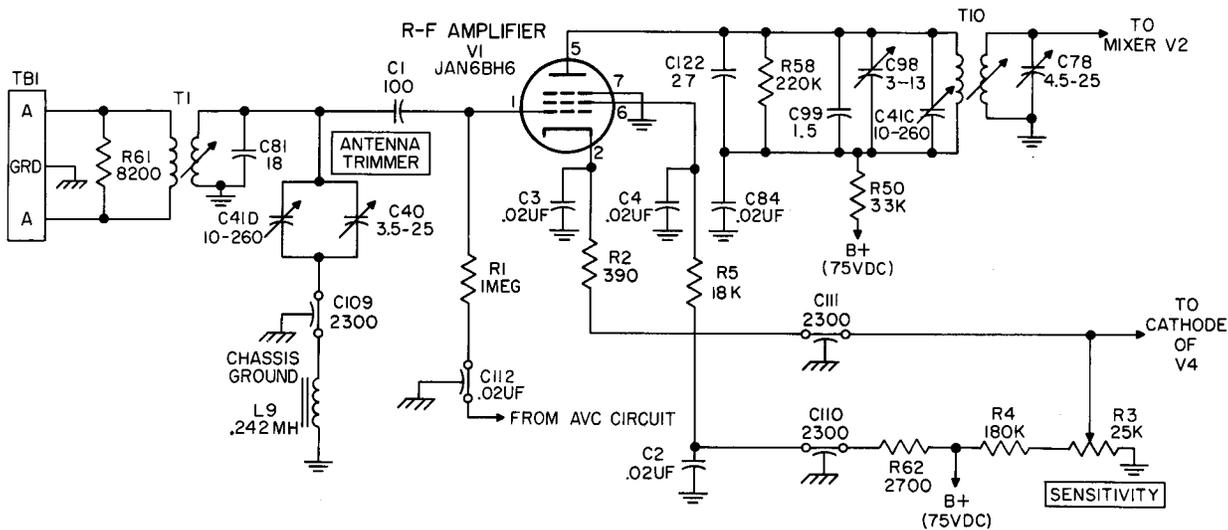

Figure 2-3. R-f Amplifier Simplified Schematic Diagram
b. R-F AMPLIFIER. (Figure 2-3)
(1) The tuned circuits in this receiver, selected by BAND CHANGE switch S1, are essentially similar to each other in function; therefore, all discussions and illustrations relating to circuit analysis will assume that band 1 (0.20 mc to 0.40 mc) has been selected. The r-f amplifier stage (V1, a type 6BH6 tube) is coupled to the antenna circuit and amplifies the selected r-f signal while isolating the following stages from the antenna. Transformer T1 and capacitor C1 couple the grid to the antenna circuit.
(2) TUNING capacitor C41D and ANTENNA TRIMMER capacitor C40 resonate the secondary of T1 to the desired signal and provide the proper tracking of the r-f amplifier stage with the mixer and local oscillator stages. Inductance L9 prevents the BFO signal from entering the r-f amplifier circuit. The grid of V1 is con-